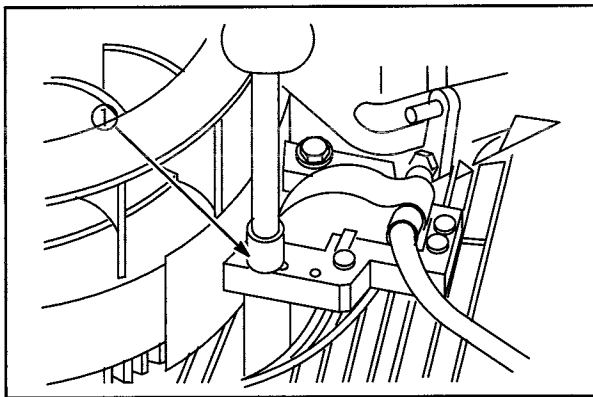

Fig. 6
3. Place thickness gauge (1) between magnet and armature laminations, Fig. 6.